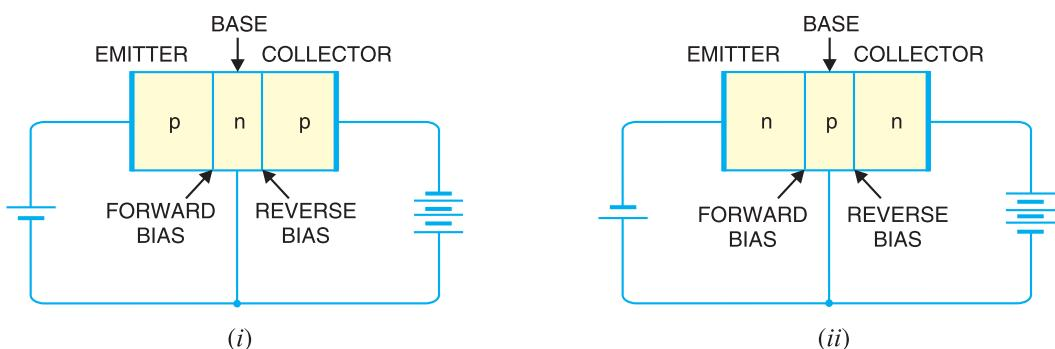

Fig. 8.2
**(i) Emitter.** The section on one side that supplies charge carriers (electrons or holes) is called the **emitter**. *The emitter is always forward biased w.r.t. base* so that it can supply a large number of \*majority carriers. In Fig. 8.2 (i), the emitter (*p*-type) of *pnp* transistor is forward biased and supplies hole charges to its junction with the base. Similarly, in Fig. 8.2 (ii), the emitter (*n*-type) of *npn* transistor has a forward bias and supplies free electrons to its junction with the base.
**(ii) Collector.** The section on the other side that collects the charges is called the **collector**. *The collector is always reverse biased*. Its function is to remove charges from its junction with the base. In Fig. 8.2 (i), the collector (*p*-type) of *pnp* transistor has a reverse bias and receives hole charges that flow in the output circuit. Similarly, in Fig. 8.2 (ii), the collector (*n*-type) of *npn* transistor has reverse bias and receives electrons.